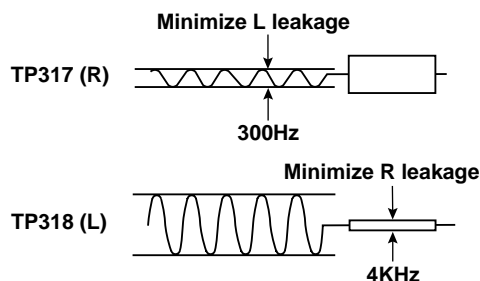

Figure 9. Separation Adjustments
13. Adjust the + or – key for minimum low frequencies at TP317. See Figure 9.
16. Adjust the + or – key for minimum high frequencies at TP318. See Figure 9.